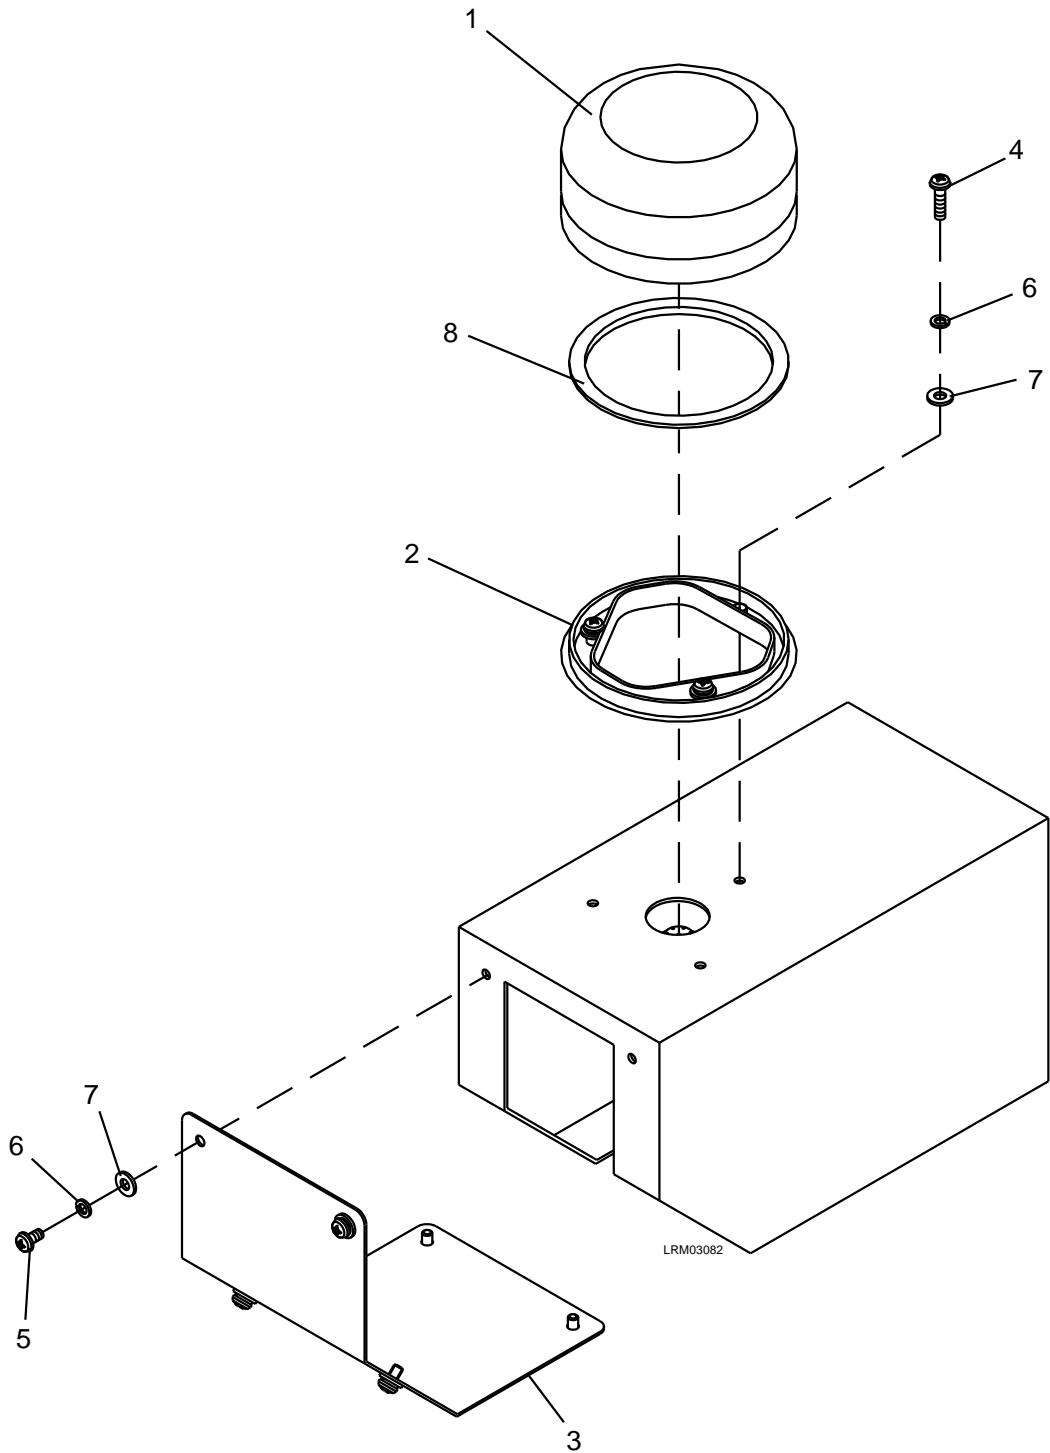

Figure 7-128: GPS Antenna
1. Remove the six M4 x 8 screws (5), M4 lock washers (6), and M4 plain washers (7). See Figure 7-128.
2. Remove the cover (3).
3. Remove the electrical connector to the GPS Antenna (1).
4. Remove the GPS Antenna (1) by turning the unit counterclockwise.
5. Remove the gasket (8).
6. Remove the three M4 x 16 screws (4), M4 lock washers (6), and M4 plain washers (7).
7. Remove the mounting bracket (2).